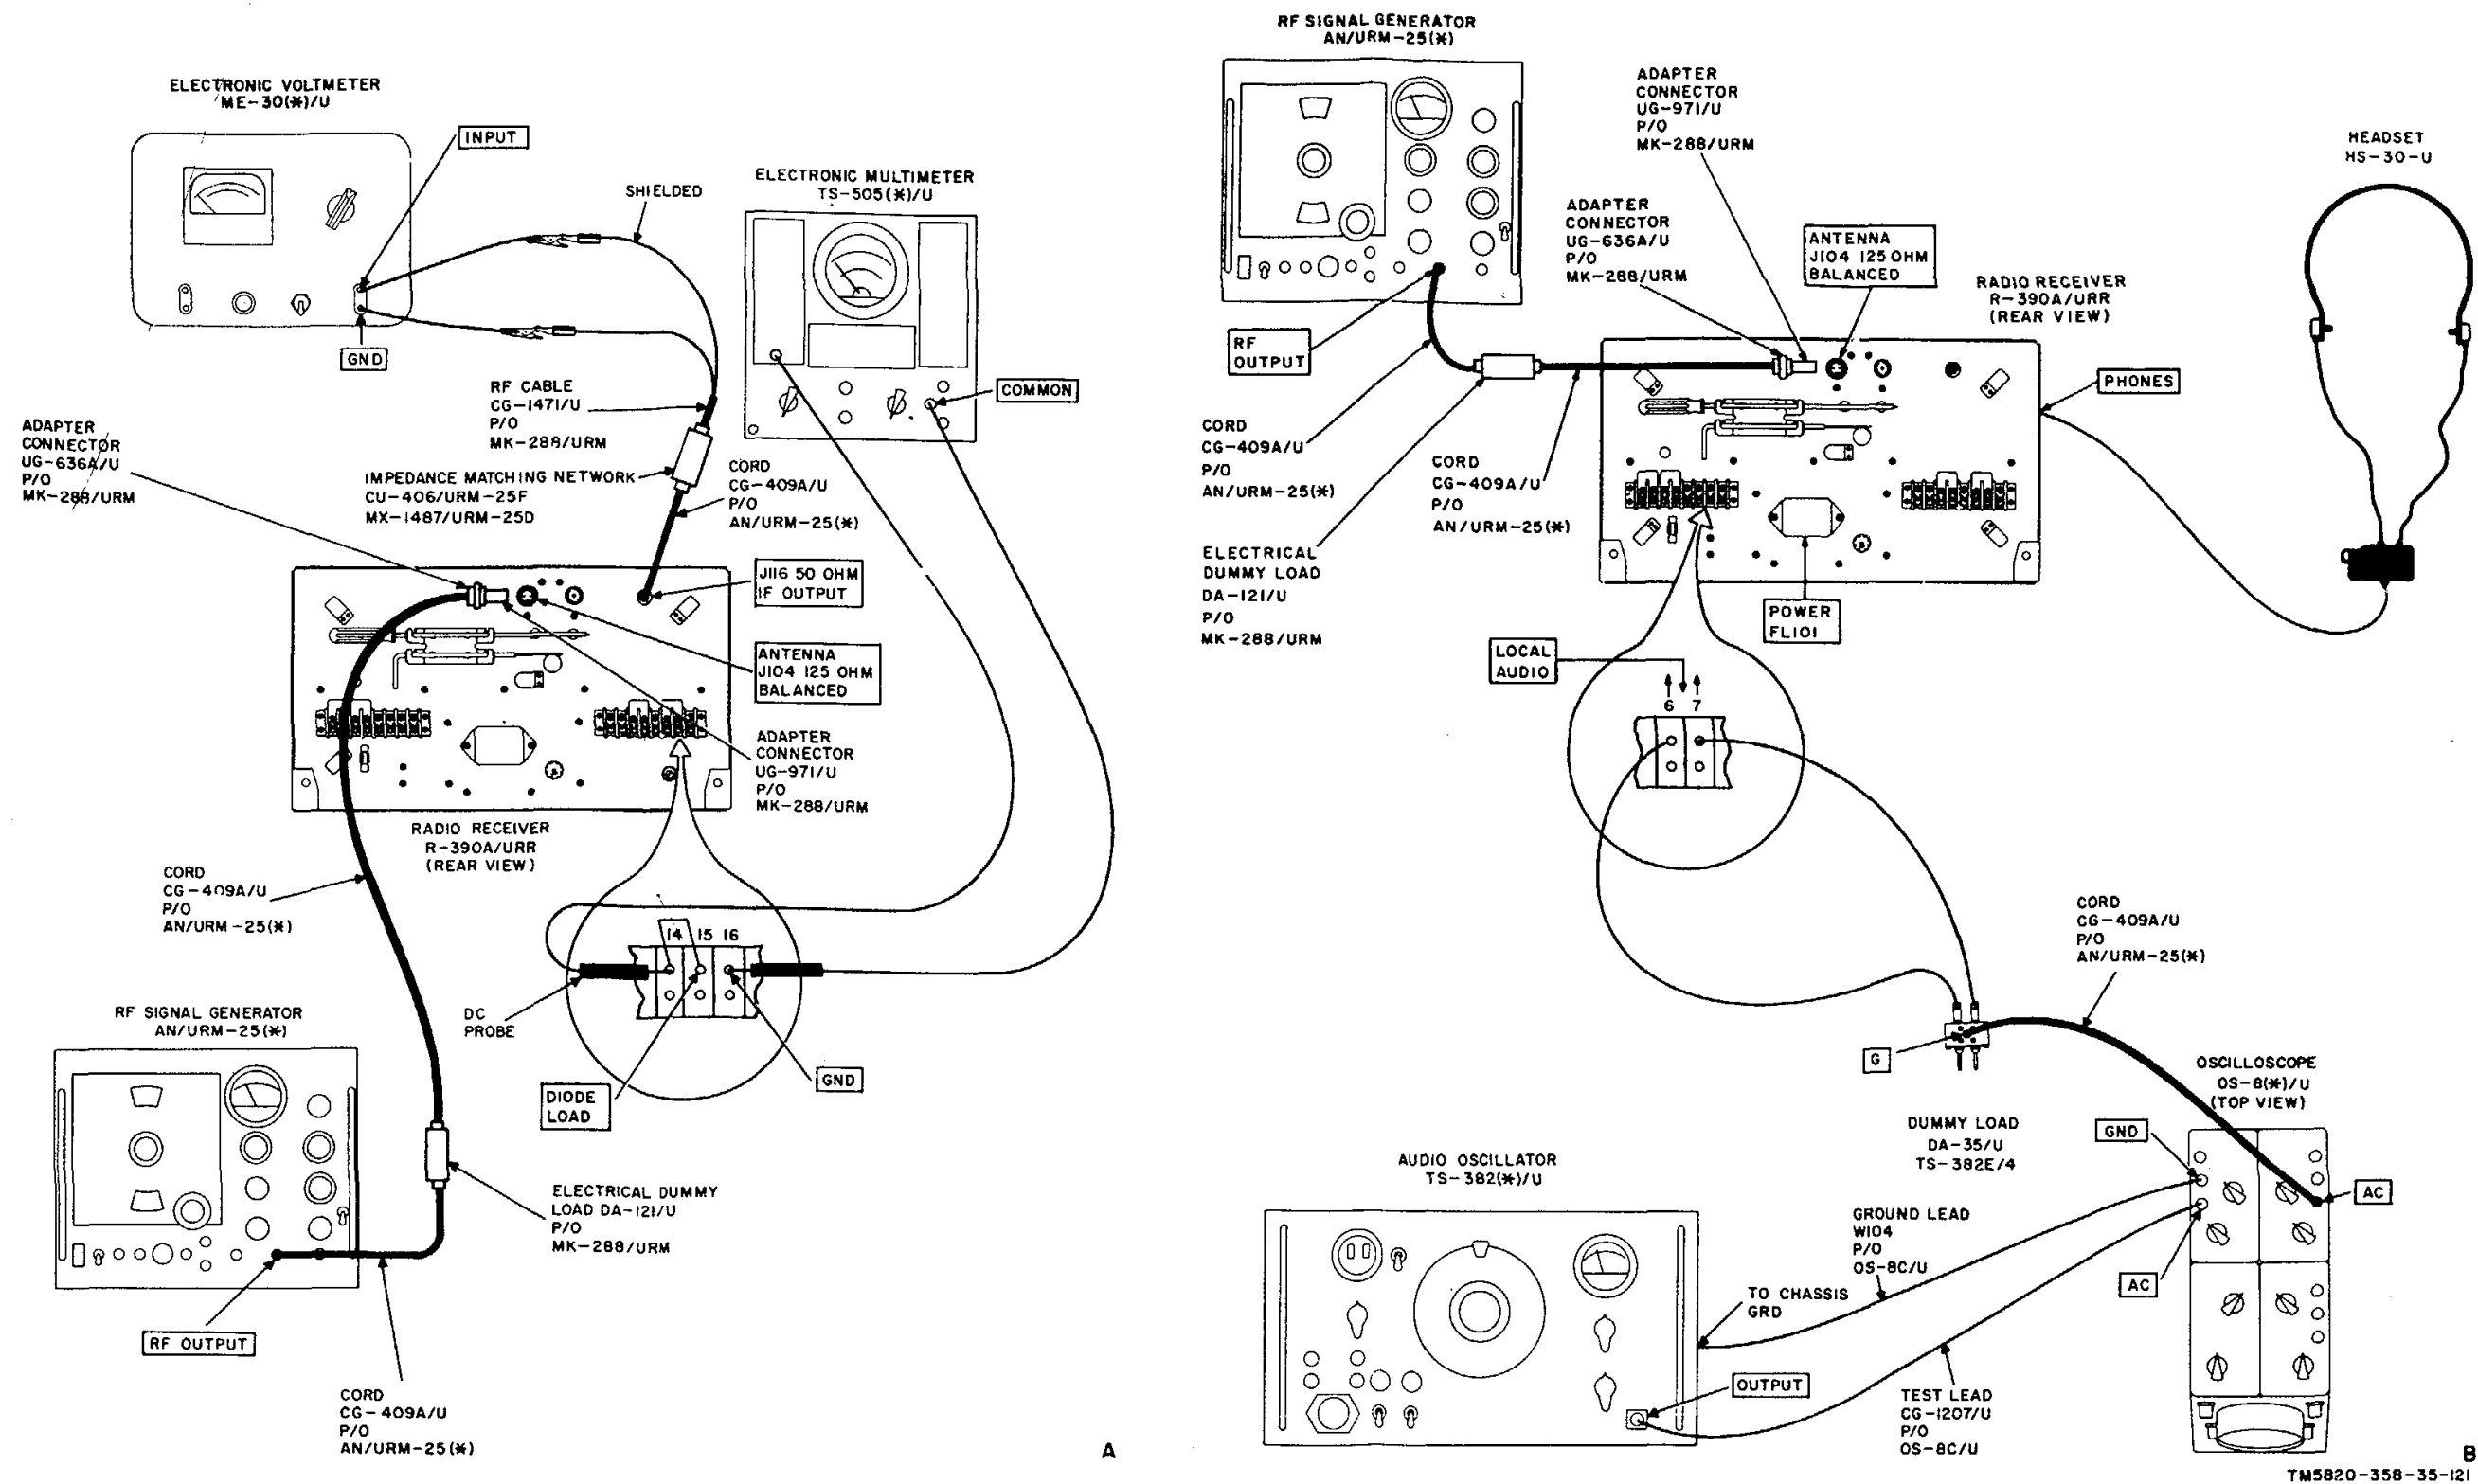

Figure 76. If. Output and bfo calibration test setup.
(fig. 76)
- b. *Test Connections and Conditions.* Connect the equipment as shown in A, figure 76. Turn on all test equipment and allow a warmup time of 15 minutes.